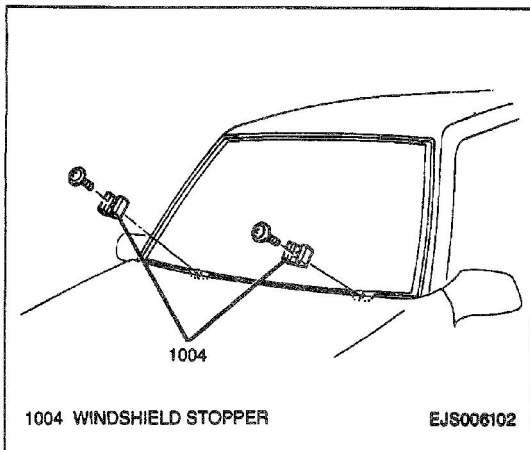

Figure 7—Windshield Stoppers
8. One screw from each windshield stopper and stoppers from vehicle (Figure 7).
1. Two windshield stoppers to vehicle; secure each with one screw (Figure 7).
- 8. One screw from each windshield stopper and stoppers from vehicle (Figure 7).